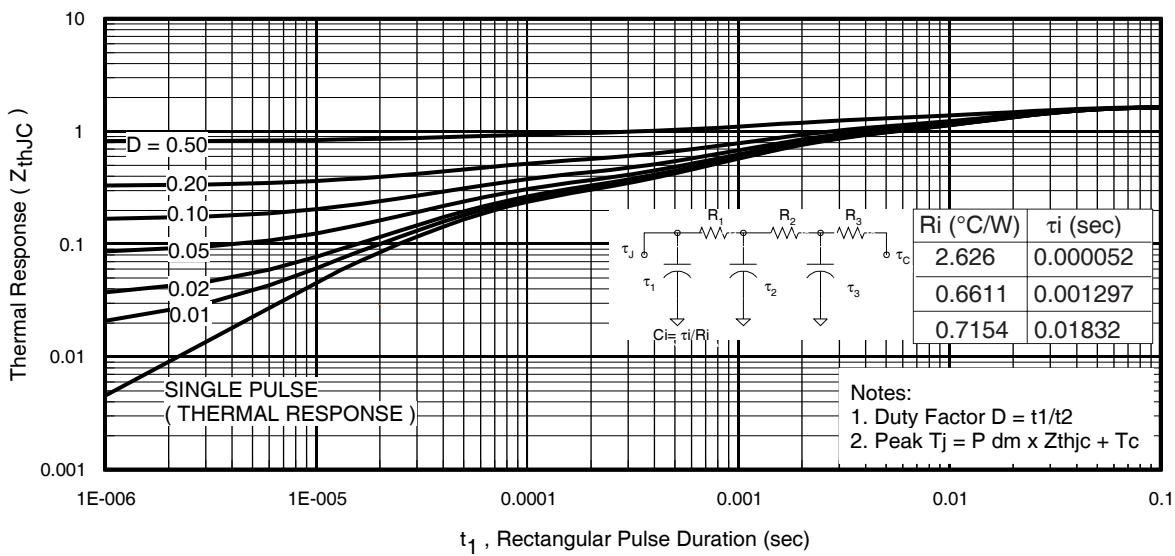
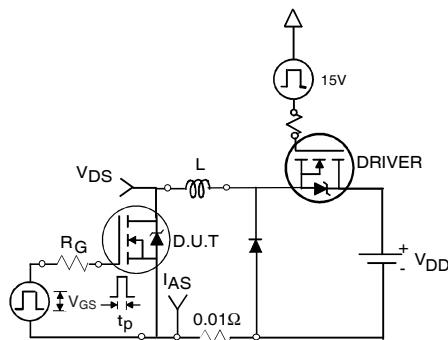

Fig 11. Maximum Effective Transient Thermal Impedance, Junction-to-Case
Fig 12a. Unclamped Inductive Test Circuit
3. Equation below based on circuit and waveforms shown in Figures 12a, 12b.
$Z_{thJC}(D, t_{av})$ = Transient thermal resistance, see figure 11)
- ① Repetitive rating; pulse width limited by max. junction temperature. (See fig. 11).
- ② Limited by T_{Jmax} , starting $T_J = 25^\circ\text{C}$, $L = 0.17\text{mH}$ $R_G = 25\Omega$, $I_{AS} = 21\text{A}$, $V_{GS} = 10\text{V}$. Part not recommended for use above this value.
- ③ Pulse width $\leq 1.0\text{ms}$; duty cycle $\leq 2\%$.
- ④ C_{oss} eff. is a fixed capacitance that gives the same charging time as C_{oss} while V_{DS} is rising from 0 to 80% V_{DSS} .
- ⑤ Limited by T_{Jmax} , see Fig.12a, 12b, 15, 16 for typical repetitive avalanche performance.
- ⑥ This value determined from sample failure population. 100% tested to this value in production.
- ⑦ When mounted on 1" square PCB (FR-4 or G-10 Material).
- ⑧ R_θ is measured at T_J approximately 90°C